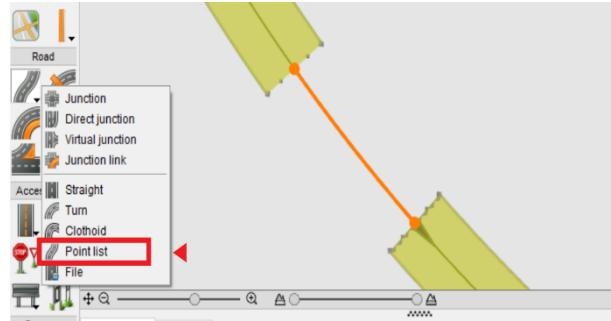

Figure 3.14: Connecting the road segments
- 3) The pylons only work in one direction. The direction is shown as a small arrow at the beginning of the Link (see Figure 3.14).
- 3) As mentioned in previous tips: the pylons only work in one direction. The link direction is shown as a small arrow at the beginning of the link. (see Figure 3.14).